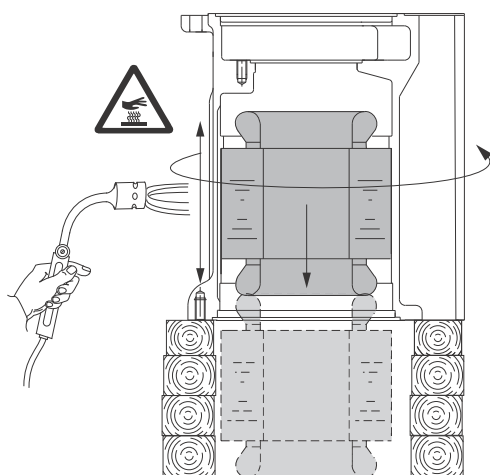

Fig. 6 Heating up stator housing in order to remove stator
3. Remove lower bearing bracket (pos. 60) and rotor (pos. 172).
4. Remove cover for bearings (pos. 59) from lower bearing bracket.
5. Remove top cover (pos. 151).
9. Block up stator housing in upside-down position as shown in fig. 6.